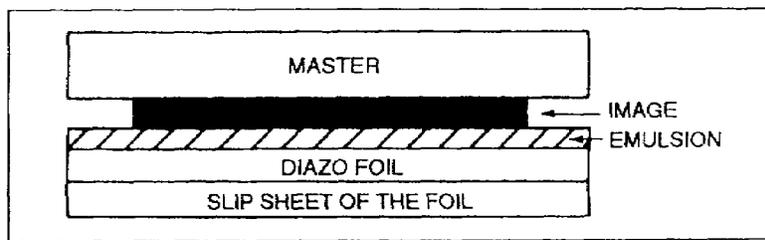

Figure 2-7. Diazo foil with slip sheet
b. Exposure. Place your master on the foil, backed up by a "slip sheet." A slip sheet is the white separation sheet in the package between each foil. Use this slip sheet as the bottom sheet in the exposure step of the operation to protect the foil. Figure 2-7 shows the master (image side down) on the diazo foil (emulsion side up), with the slip sheet in place.